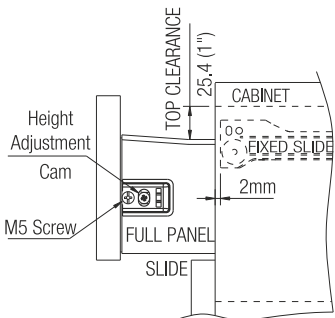

Fig. 2 SIDE VIEW
3. 25.4mm clearance from top edge of drawer required to tilt and remove drawer (Refer Fig.2)
4. Fixed slide should be set by 2mm for 'Auto-Closing' (Refer Fig.2).